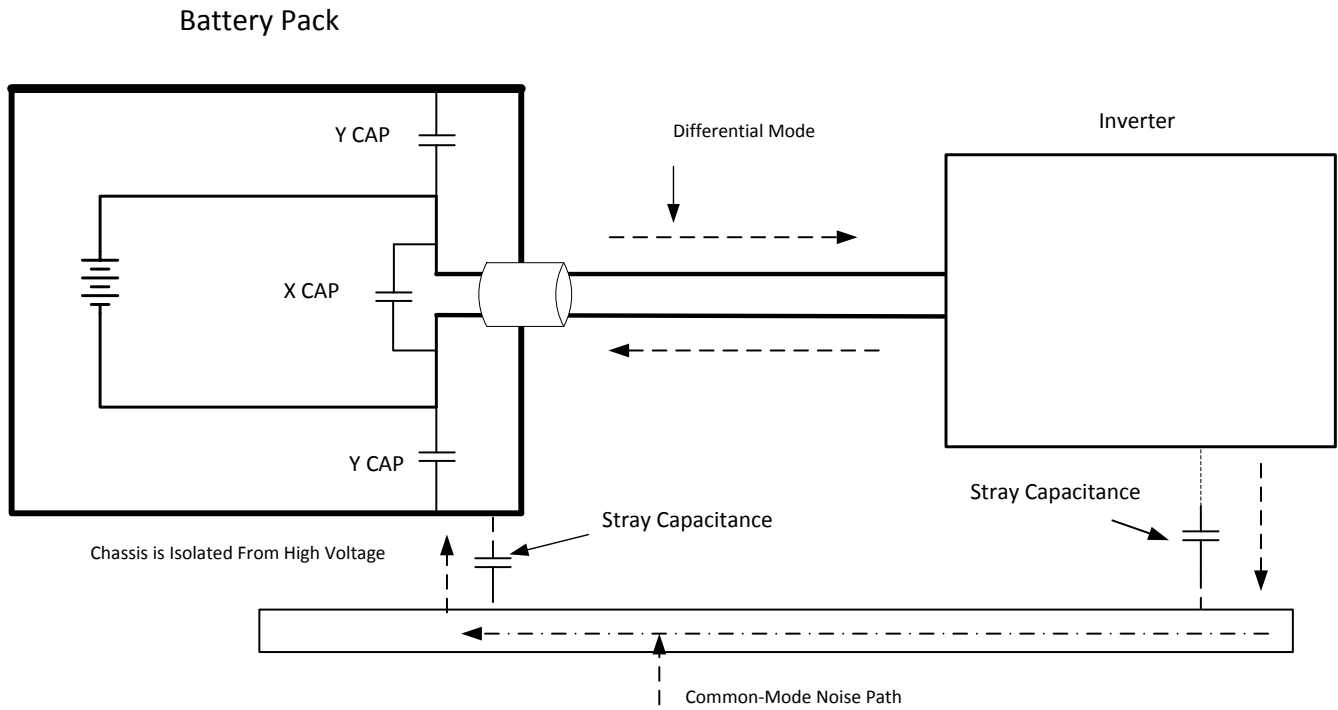

Figure 15-1. XY Caps
- Common mode noise goes out from both wires and returns back to the chassis through stray capacitance to ground. A Y capacitor is placed between the chassis as Figure 15-1 illustrates.